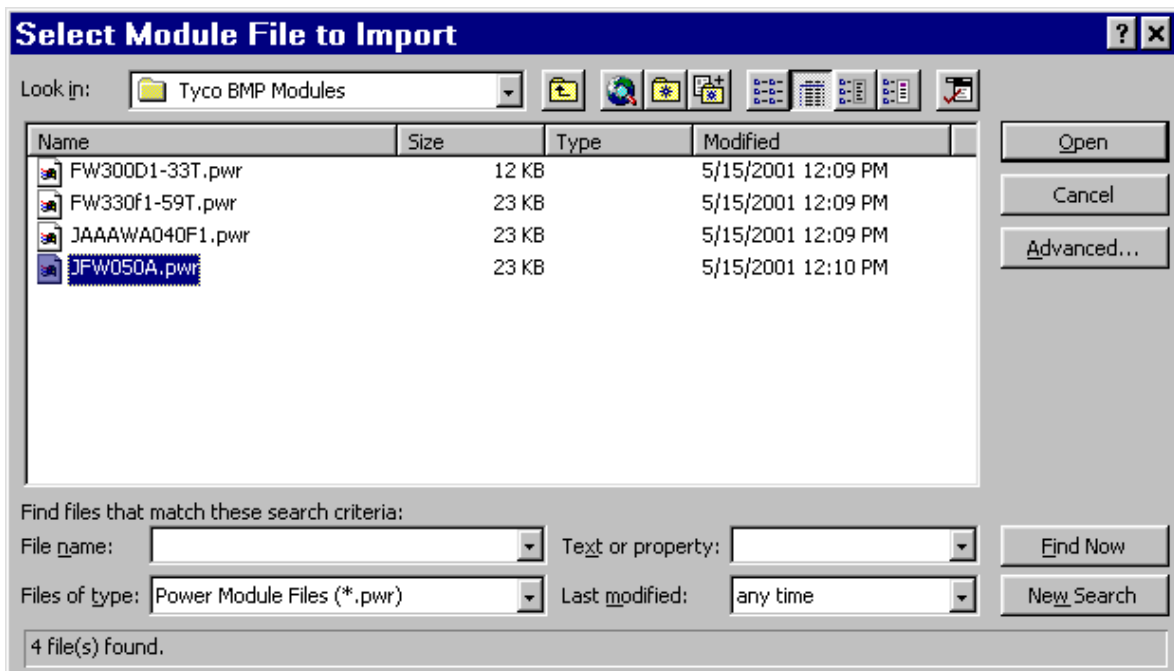

Fig. 2. Module data file import window
- Click on the button  This will bring the module data file import window as shown below in Figure 2.